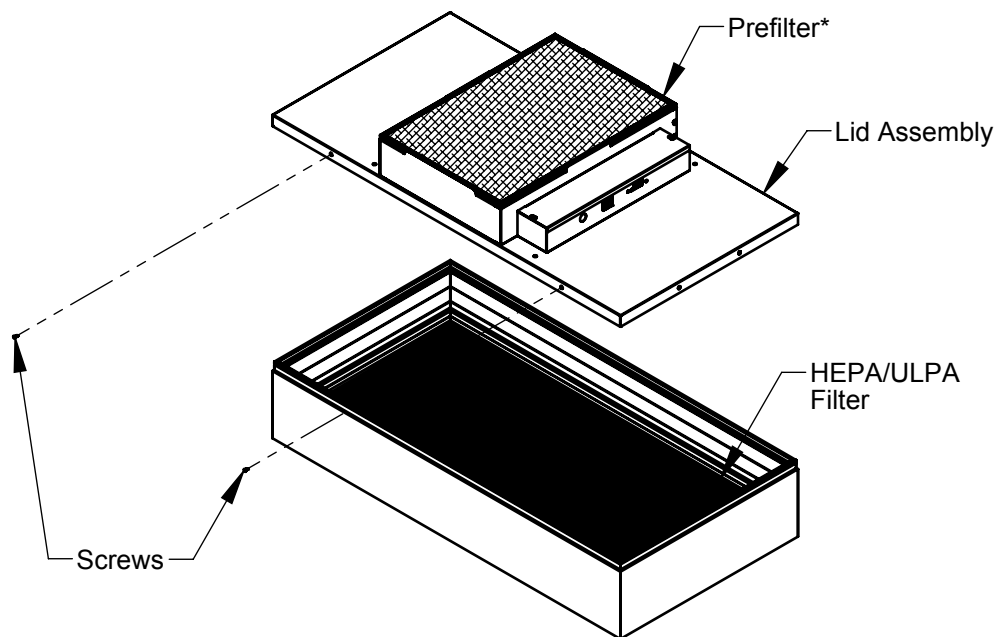

FIGURE 3 - HEPA/ULPA Filter Replacement
6. Lift the lid assembly off the HEPA/ULPA filter as in figure 3 and discard the used filter as per appropriate regulations.